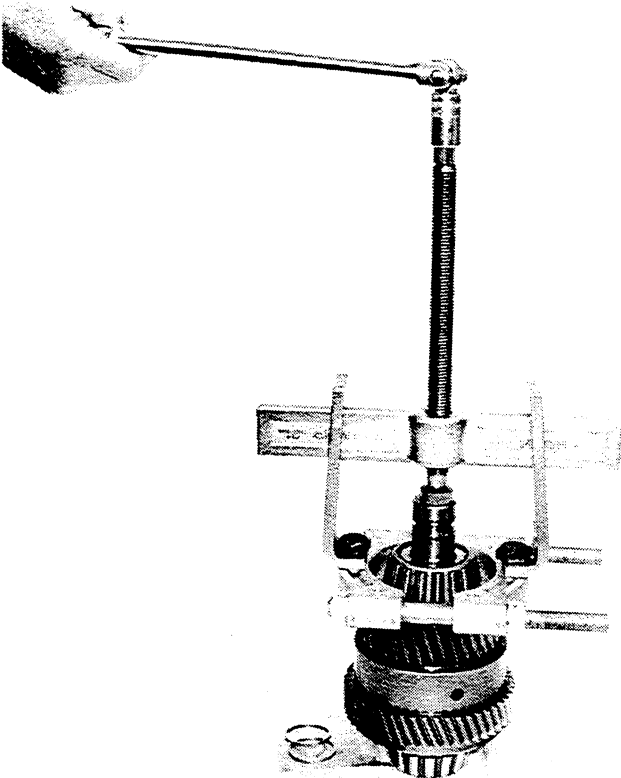

Figure 8-1. *Pulling the Rear Bearing Cone from the Reverse Clutch Shaft.*
3. Remove roller bearing (21) inner race using guillotine-type puller. See Figure 8-1.